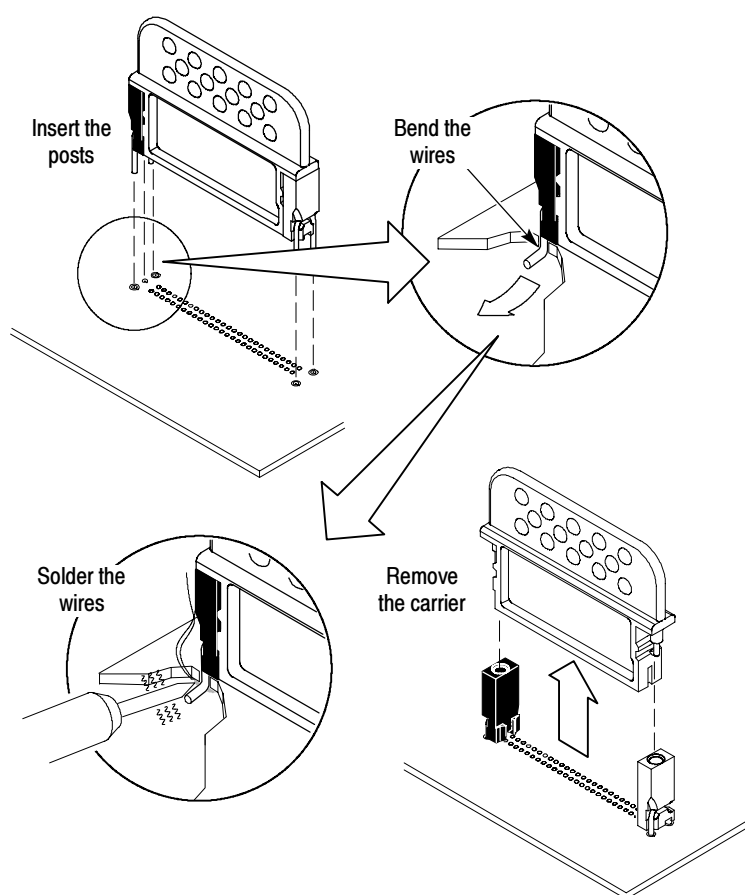

Figure 6: Installing the retention posts in the PCB
1. On the retention post/carrier assembly, locate the black retention post (the post with the keying pin) and align it to the keying pin hole on the PCB. (See Figure 6.)